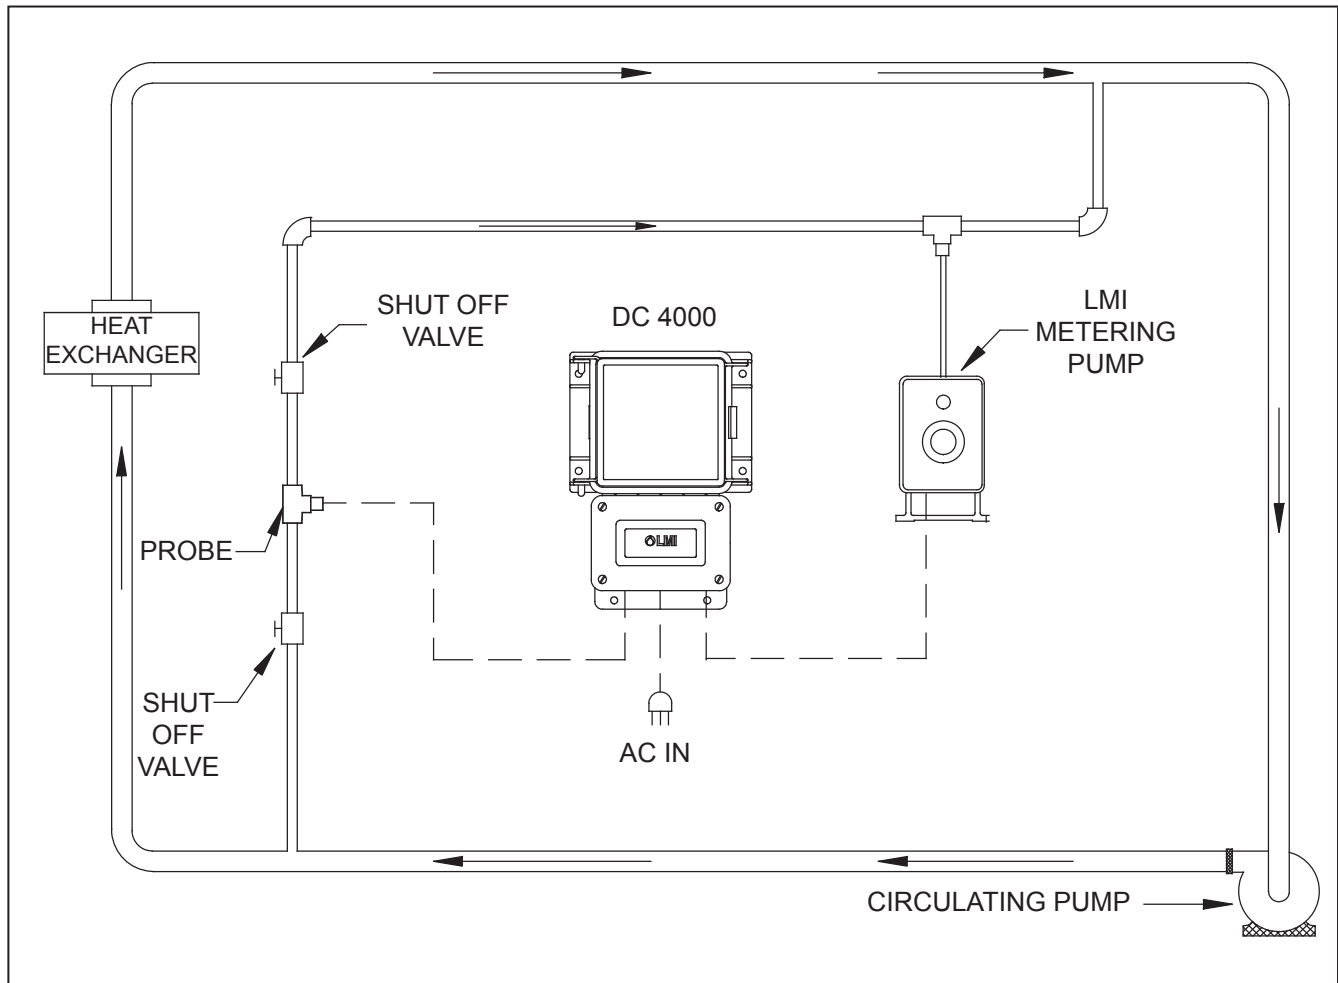

Figure 9. Closed Loop Installation
1. Check that the unit is installed as shown in *Figure 9* on page 30.
Refer to *Figure 9* below for location of components.